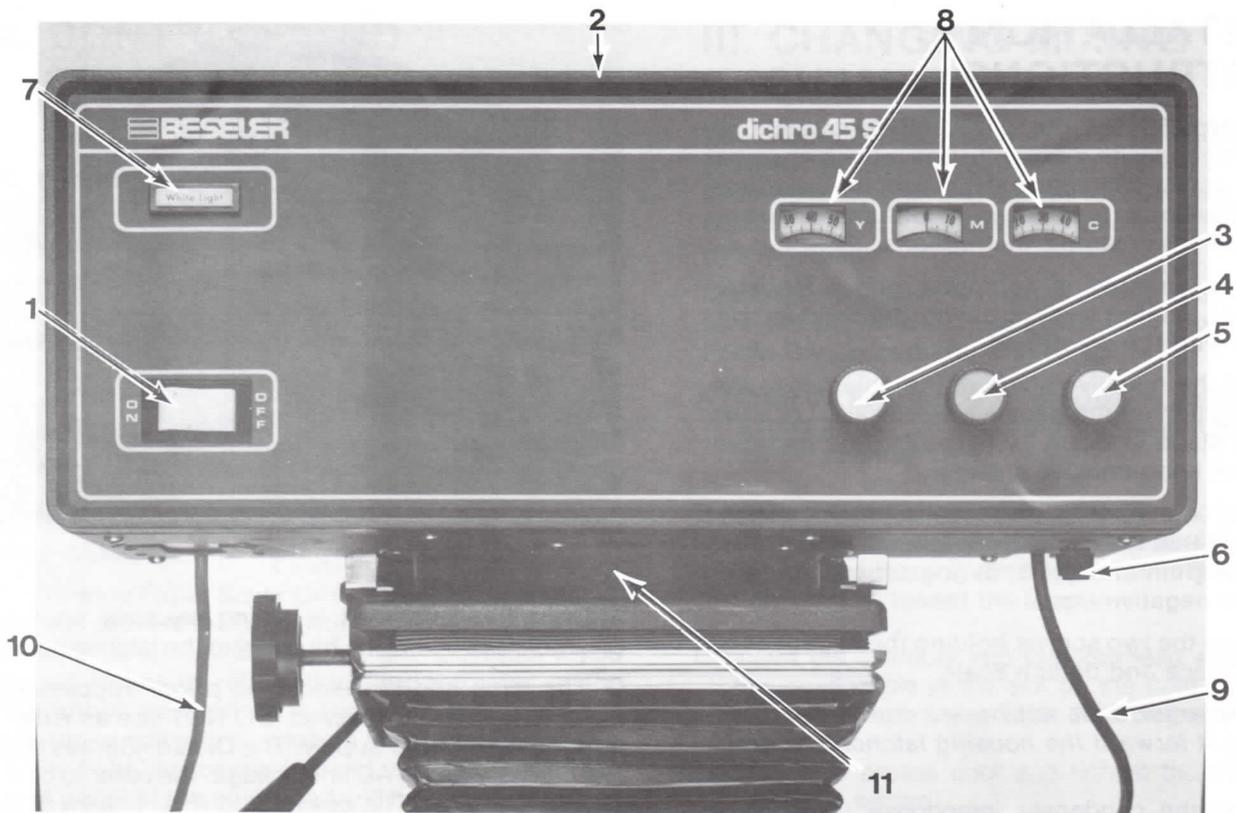
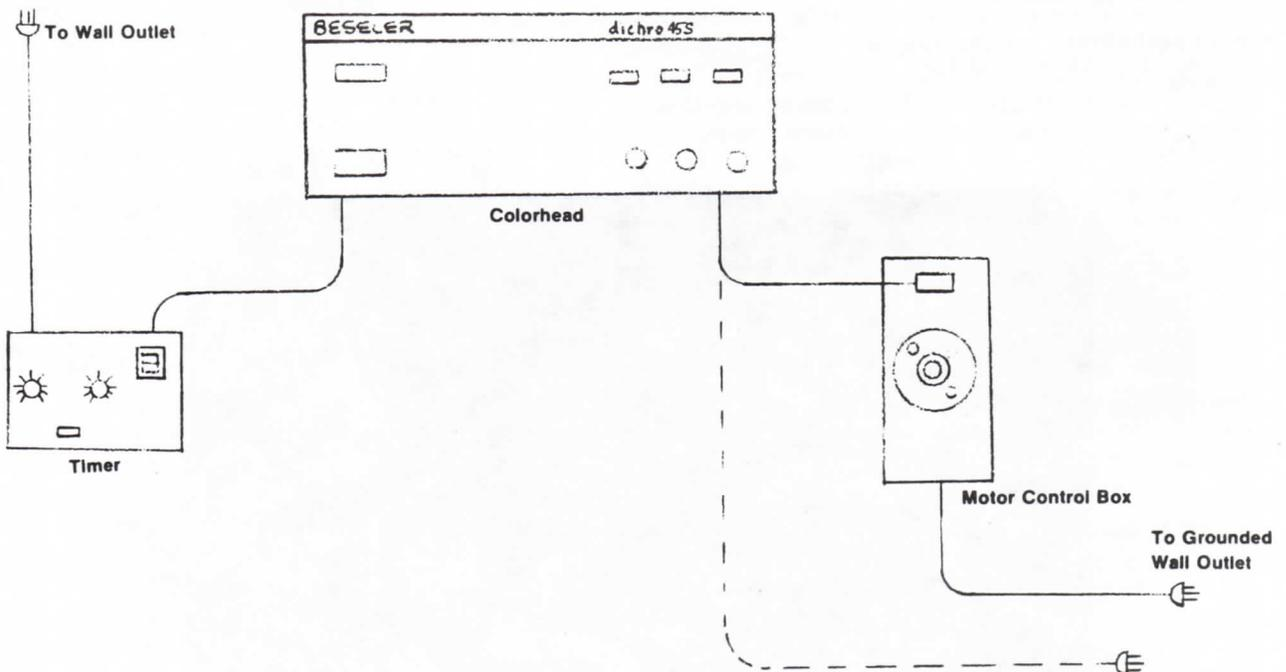

Figure 1
Figure 4
If you desire to begin printing immediately with your Dichro 45S, we suggest that you familiarize yourself with the colorhead and its controls (Figures 1 and 2 with descriptions) and then follow the directions in Section I, Installation Instructions, and Section IV, How to Use the Dichro 45S. The remainder of the manual contains additional valuable information which will increase your understanding of the Dichro 45S.
E. Place the colorhead on the enlarger so that the colorhead mounting collar (Fig. 1, item 11) slides into the opening in the support stage.
G. The lamp and the electronic power supplies in the colorhead are stabilized. **DO NOT** use an external stabilized power supply. The Dichro 45S has two line cords—one for AC line voltage, the other to connect to the timer. The power cord (Fig. 1, item 9) is on the right and should be plugged into the convenience outlet on the enlarger motor box (on 45MXT) or to a grounded AC outlet. The grey timer cord (Fig. 1, item 10) is on the left underside of the colorhead and is inserted in the "Enlarger" outlet on your timer. See Figure 4 for typical AC connections. You are now ready to begin diffusion printing with your Dichro 45S.